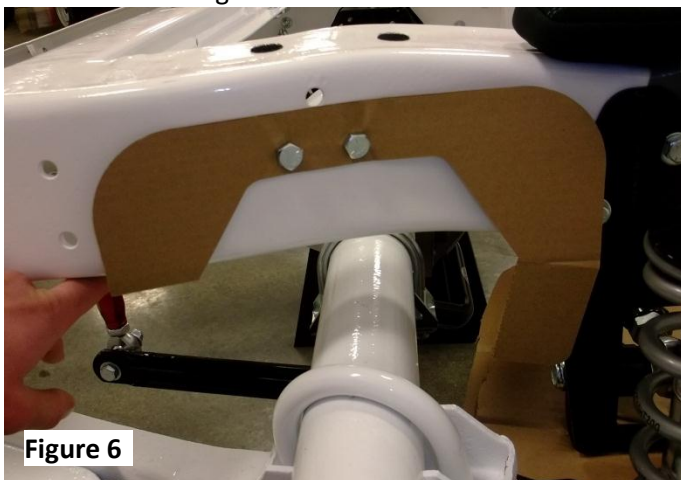

Figure 6
7. Bolt the C-notch template provided in the kit to the frame rail using the 3/8" bolts through the existing holes from the bump stop mount. Trace the template for the C-Notch. Flip the template over and repeat on the other side of the chassis. The template should be centered over the axle as shown in **Figure 6**. **Caution: When cutting and drilling on the frame, be aware of wires, brake lines and fuel lines.**